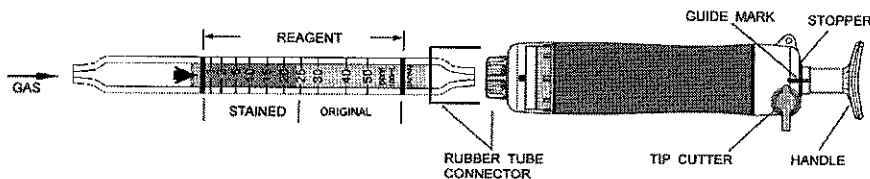

Fig.1
- ② Insert the detector tube into the aspirating pump securely as shown in Fig.1. (Arrow mark shall point to the pump.)
- ③ Align the guide marks on the shaft and stopper of the aspirating pump.
- ④ Pull the pump handle at a full stroke until it locks and wait for 1 minute or until the completion of sampling is confirmed with the flow indicator of the pump. (See descriptions about the flow indicator in the instruction manual of the pump.)
- ⑤ On completion of sampling, read the scale at the maximum point of the stained layer.
- ⑥ When the concentration is below the scale range, 2 pump strokes can be used to determine concentrations of 0.5 to 25 ppm. Then multiply the reading value by 0.5.